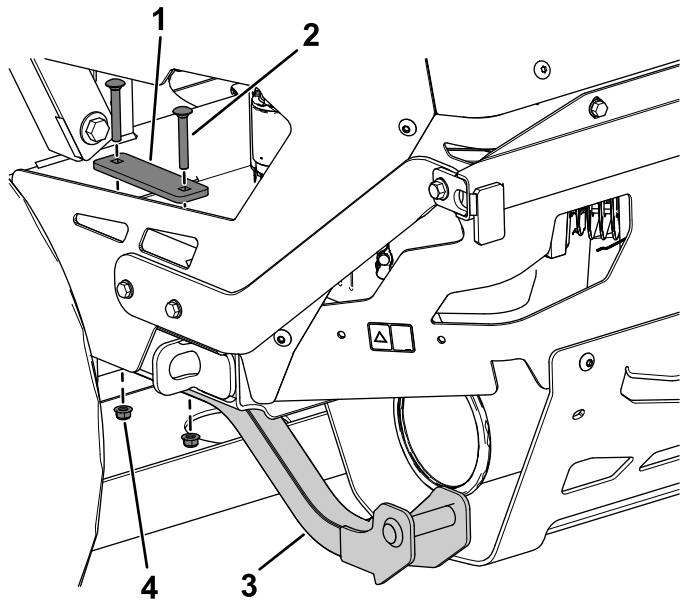

Figure 10
- Loosely secure the lower support to the engine plate using 2 carriage bolts (5/16 x 2-1/4 inches), 1 backer plate, and 2 flange nuts (5/16 inch) as shown in Figure 10.